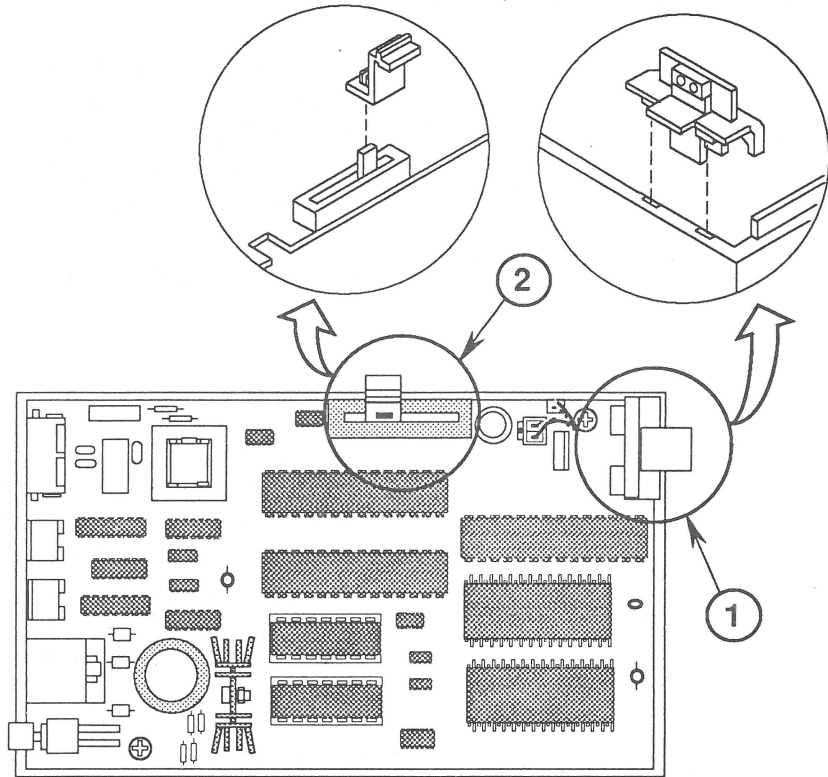

FIGURE 10
5. Replace the light pipe assembly (Figure 10, #1).
6. Replace the volume lever (Figure 10, #2).